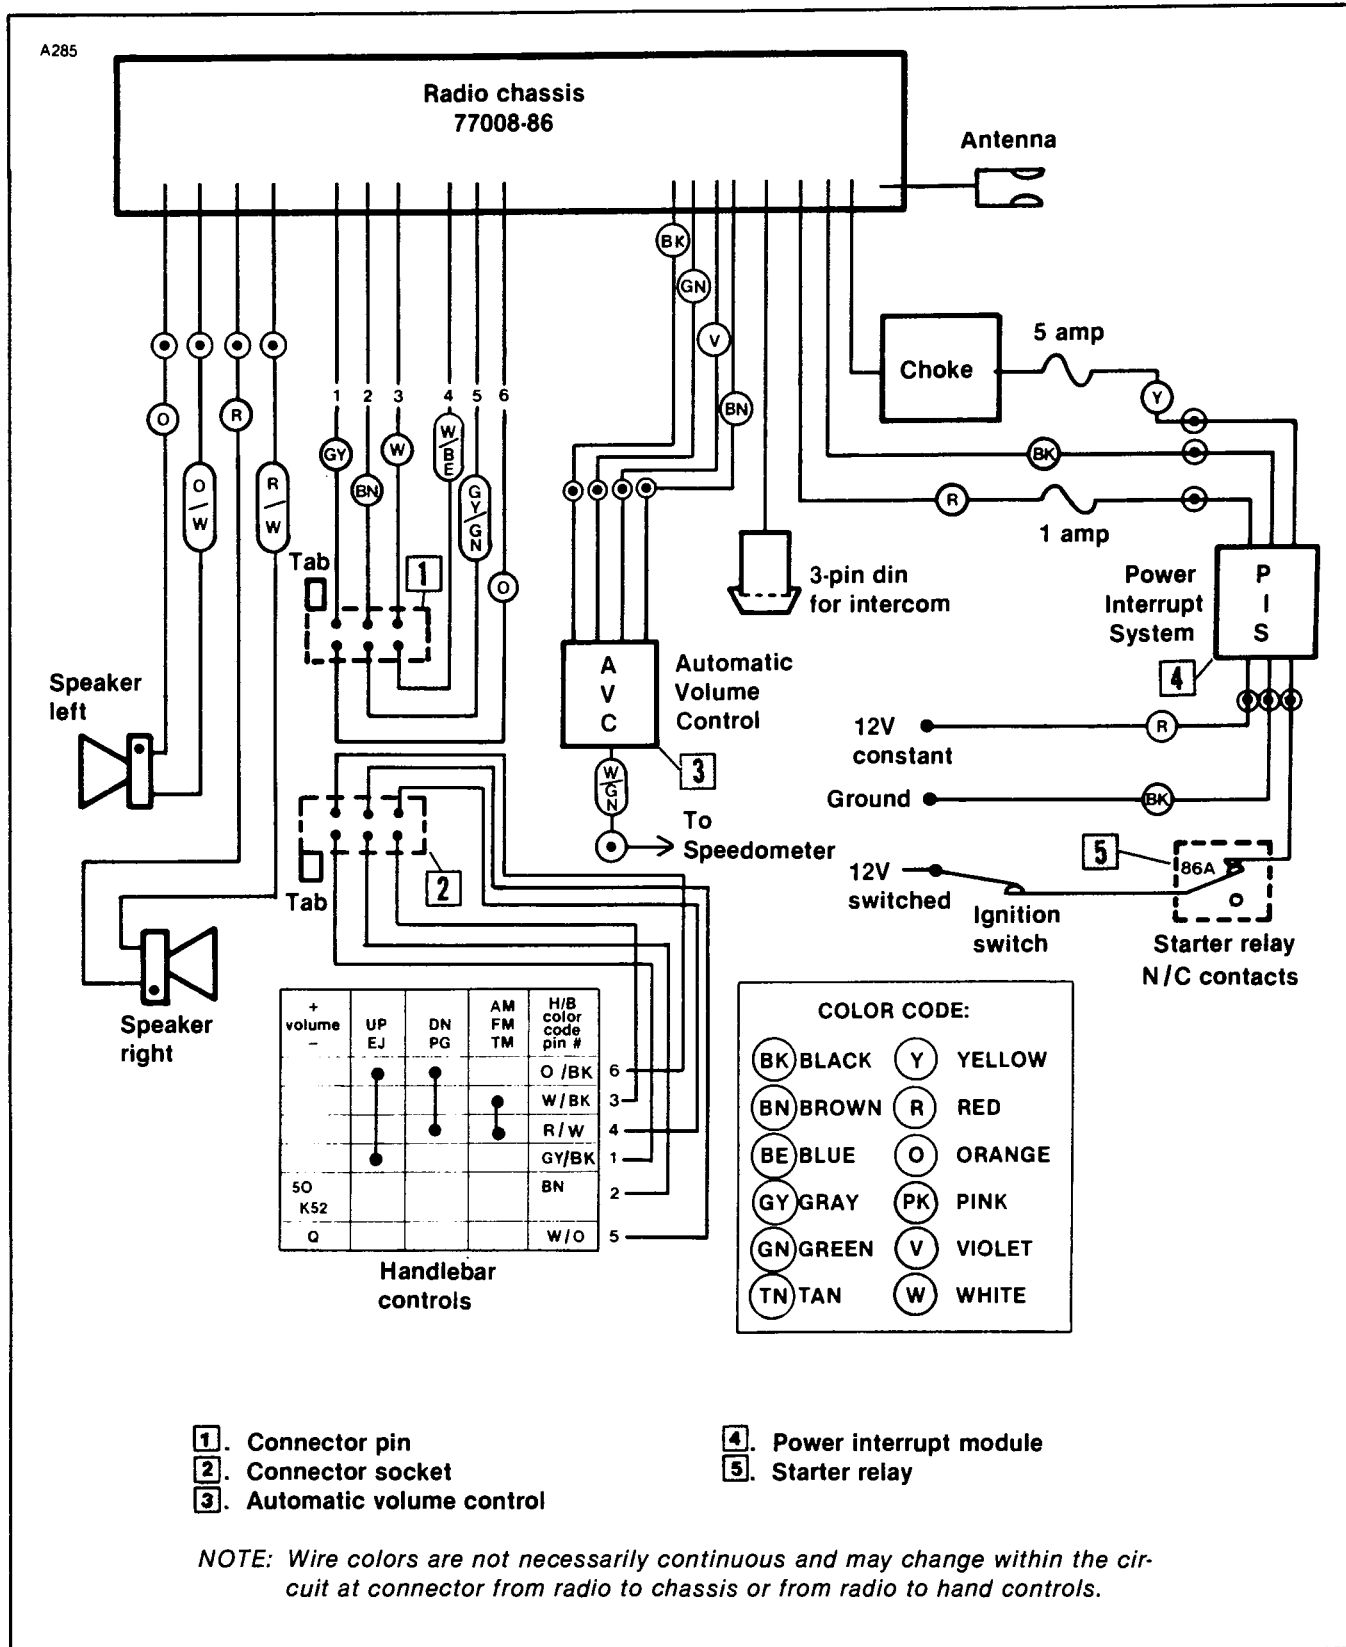

Figure 1. Wiring Diagram
Refer to Figure 1. The circuit from radio to function switch, through pin one, if grounded will start and stop radio. To isolate problem, disconnect connector halves (1) and (2).
Refer to Figure 1. Circuit from radio to volume control, through pin five, if grounded will kill volume. To isolate problem, disconnect connector (1) and (2).
1. Refer to Figure 1. Disconnect connector halves (1) and (2).
Refer to Figure 1. Disconnect connector halves (1) and (2). Connect voltmeter black lead to vehicle ground. Touch each pin of pin connector (2) with red probe and watch for an indication of voltage on meter. There should be no voltage present at any of the pins. If a voltage is present, this is an indication of current flow into the radio control circuit from source other than radio chassis.